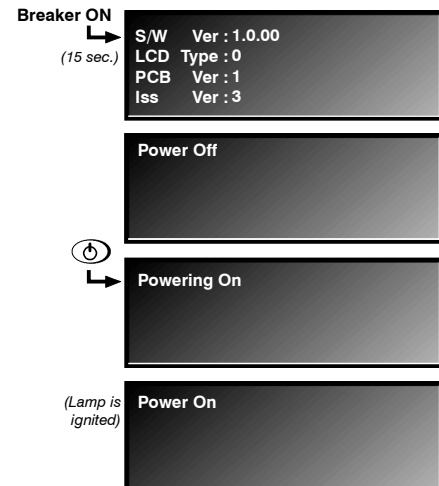

Figure 2-1 Power ON
- On the projector, turn the power breaker/switch ON. The LCD Status Display Window displays the initializing window for 15 seconds, and then indicates **POWER OFF** (Figure 2-1).
The LCD Status Display Window will display **Powering Up** and then, **Power On** (Figure 2-1) while the two-digit Status/Error Code window will display **ON**.